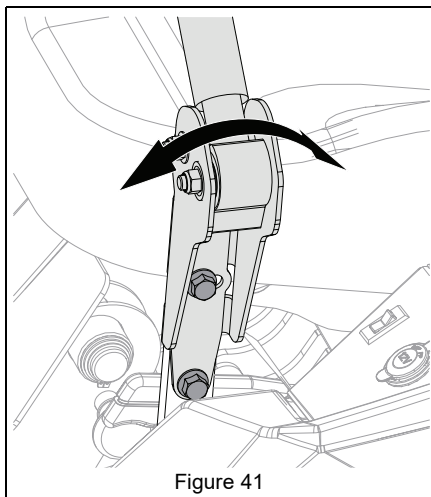

Figure 41
3. Loosen mounting hardware, align levers and tighten hardware. See Figure 41.
See Figure 41.